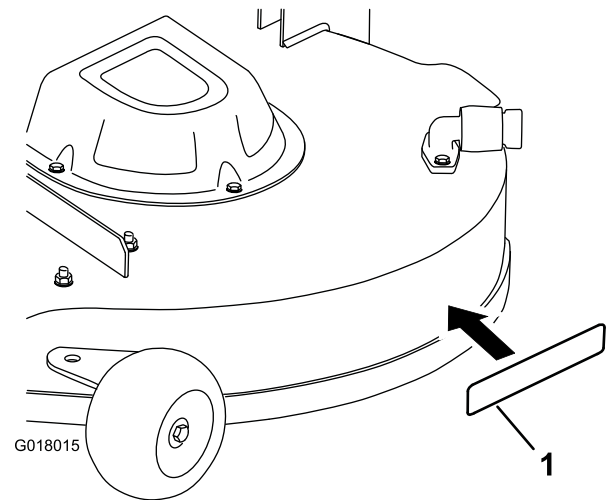

Figure 7
6. Install the decal to the area shown in Figure 7.
- Peel the decal from the backing and install it in place (Figure 7).